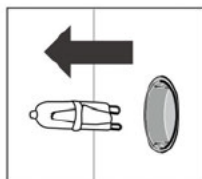

Figure 6
3. Remove the light and replace it with the same type. (Figure6)